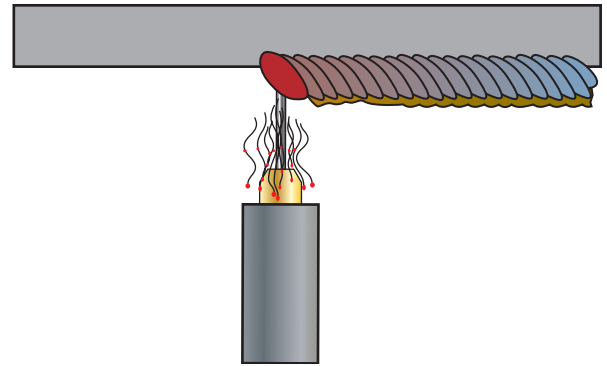

FIGURE 13-17 Weld spatter can collect in the nozzle when using the overhead position.
- **Weld spatter**—the weld nozzle is directly under the weld in the overhead position and so more weld spatter can collect in the nozzle, causing gas flow problems or even shorting the tip to the nozzle, Figure 13-17.